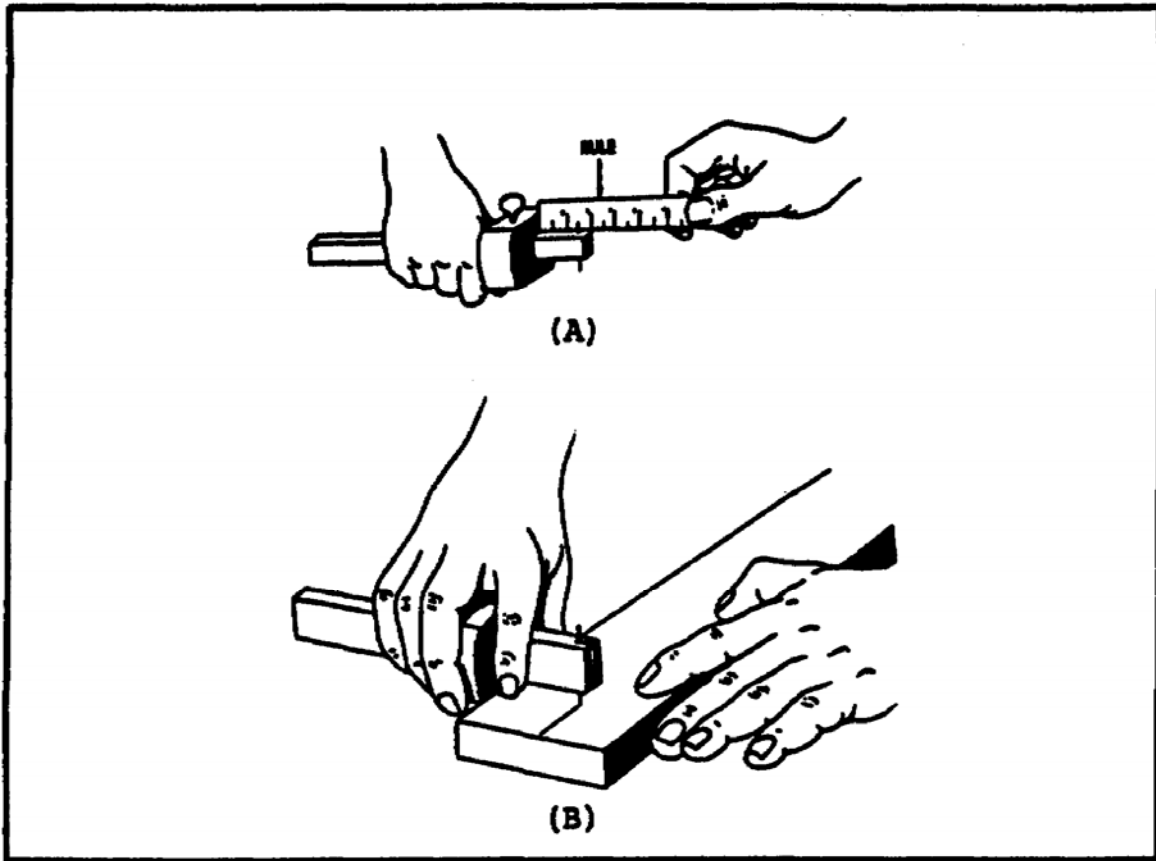

FIGURE 213. USING MARKING GAGE.
q. *Use of Marking Gages.* A marking gage must be adjusted by setting the head the desired distance from the spur. Although the bar of a marking gage is graduated in inches, the spur may work loose or bend. If this occurs, accurate measurement with a rule should be made between the head and spur (figure 213, view A). To draw a line after setting the gage, grasp the head with the palm and fingers (figure 213, view B); extend the thumb along the beam towards the spur.